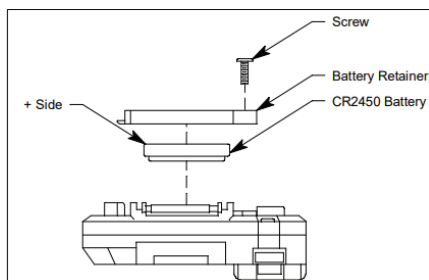

Figure 28
**6.1.4** Carefully install the new CR2450 3.0 Volt lithium coin battery, noting the polarity indicators on the underside of the battery cover inside the COVX battery compartment. The negative (-) side of the battery goes into the COVX monitor, as shown in Figure 28.